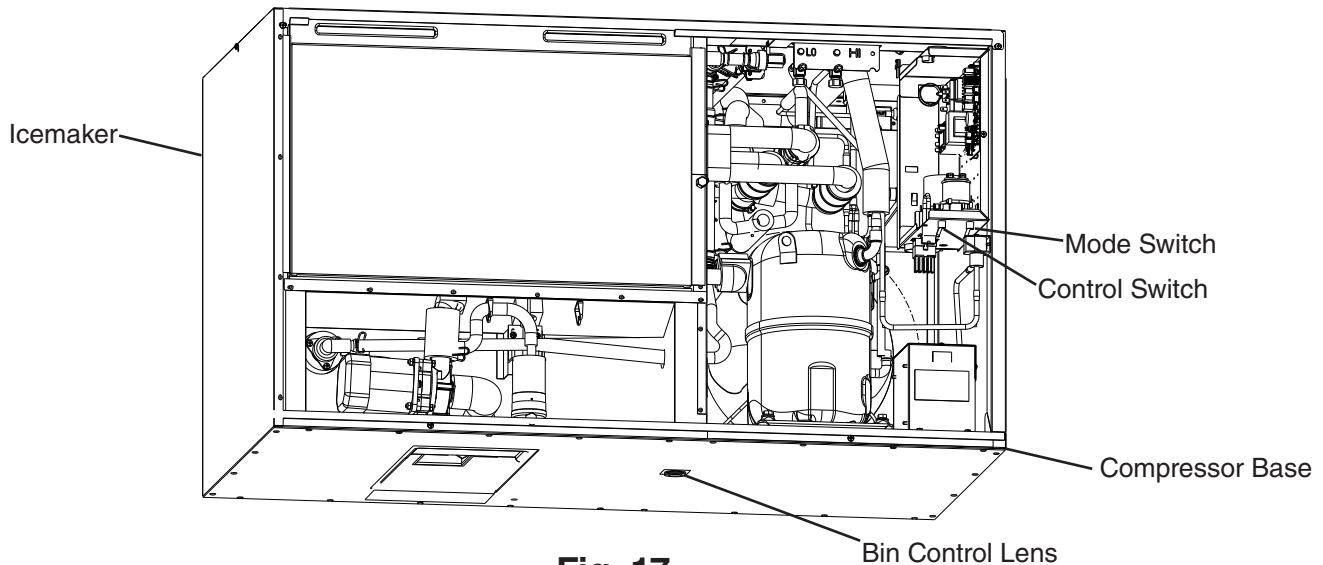

Fig. 17
- 6) 1 min. fill cycle begins. Place an object 5" to 7" (127 to 178 mm) away from the bin control lens. See Fig. 17. 15 sec. later, the icemaker shuts down. Remove the object from the bin control lens. 30 sec. later, the icemaker restarts.